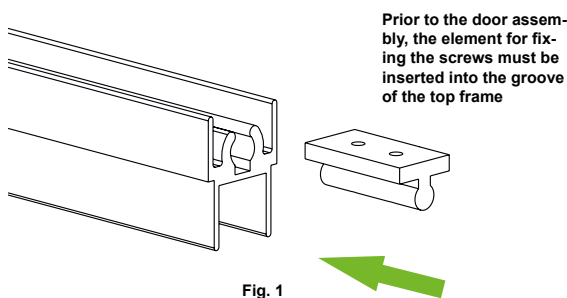

Fig. 1
- 1 Install the element for fixing the screws (Fig. 1). If the door has been assembled previously, it's necessary to partly disassemble the door to install this element. (You may also use a rubber mallet to push the element into the groove but this can damage the aluminium.)